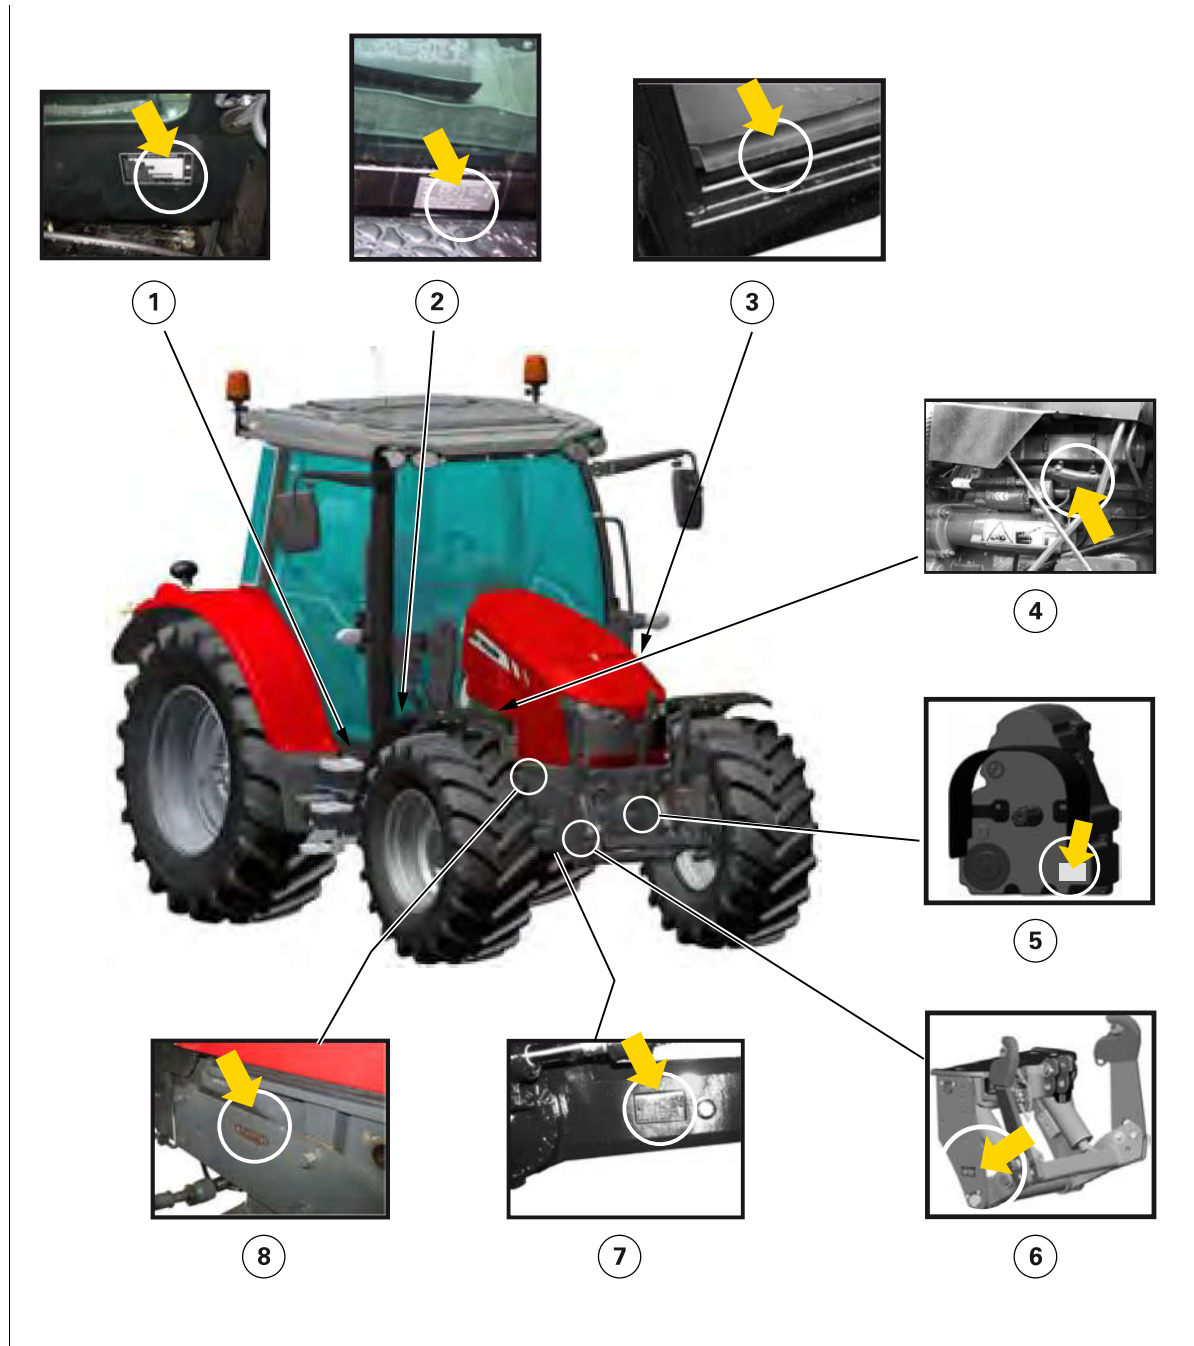

Fig. 1.
<ul style="list-style-type: none"> - 4296959M1 ((P) fig. 1) - WARNING: Risk of being crushed under tractor in the event of a rollover. Keep seat belt fastened snugly when operating, do not jump if tractor starts to tip.
<ul style="list-style-type: none"> - 4296968M1 ((C) fig. 1) - WARNING: Burn hazard – hot surfaces. Keep away from hot engine components when engine has been running. Shut off engine, remove key, and wait for system to cool before performing maintenance or repair work.
<ul style="list-style-type: none"> - 4296970M1 ((M) fig. 1) - WARNING: Crushing hazard between tractor and implement. Stand outside of tractor tire when using external controls for 3-point hitch. Do not stand between tractor and implement.
<ul style="list-style-type: none"> - 4296972M1 ((B) fig. 1) - WARNING: Shearing hazard – engine fan. Keep your hands away from the fan and the belts when the engine is running. Shut off engine and remove key before performing maintenance or repair work.
<ul style="list-style-type: none"> - 4296976M1 ((K) fig. 1) - DANGER: Rear overturn hazard, which may result in personal injury or death. Pull only from approved drawbar or bottom links of 3-point hitch at horizontal position or below. Never pull from above rear axle centerline.
<ul style="list-style-type: none"> - 4296978M1 ((L) fig. 1) - DANGER: Entanglement hazard – PTO driveline. Stand clear of rotating shafts. Keep all driveline, tractor, and equipment guards in place during operation.